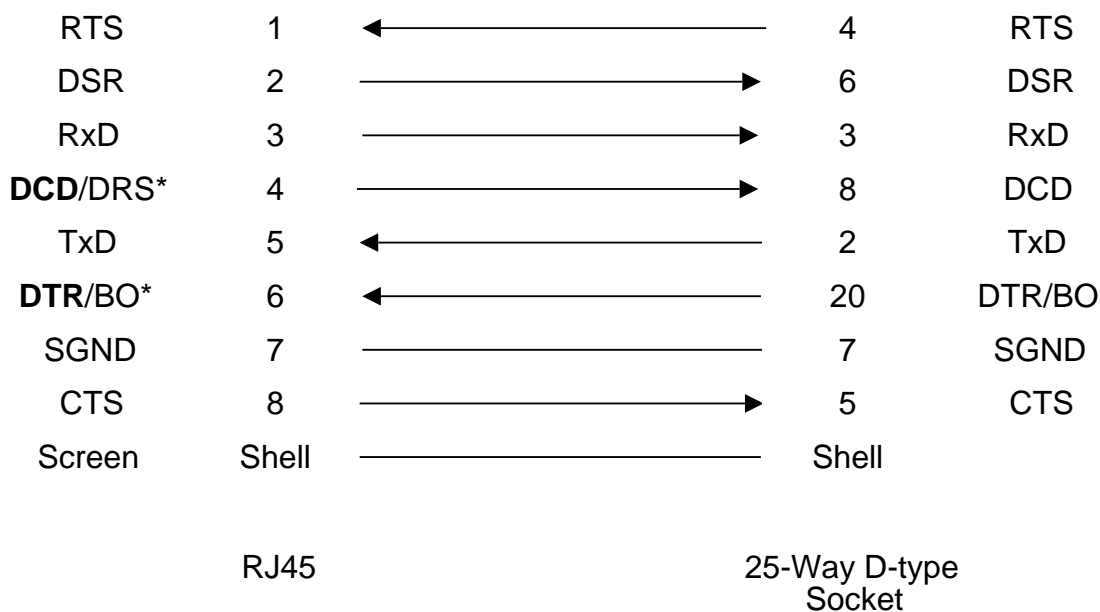

Figure B-3 RJ8 Application Card V.24 STP to 25-way D-type Converter (DTE to Terminal)
- (1) RJ8 Application Card to DTE (e.g. terminals) use cable as shown in Figure B-2, with converter X870-401711, Figure B-3.